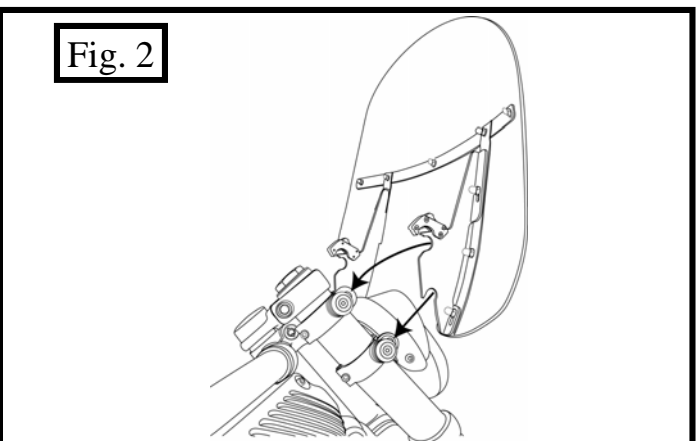

Fig. 2
3. Slip the windshield mounting plates and windshield onto the fork clamps, (see figure 2 and 3) and secure the left and right side locking mechanism.